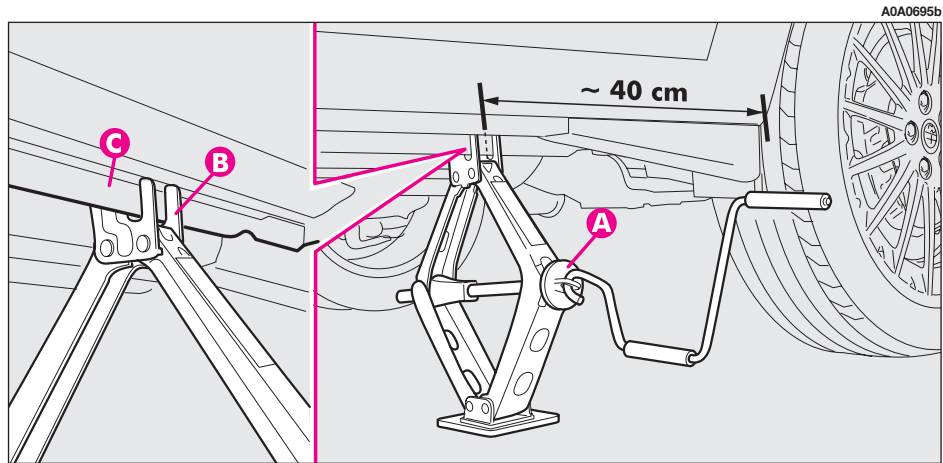

fig. 6
– Work the jack crank (**A-fig. 6**), to extend it until the groove (**B**) on the upper part of jack is correctly inserted on the lower profile of the body (**C**) approx. 40 cm from the profile of the wheelhouse.